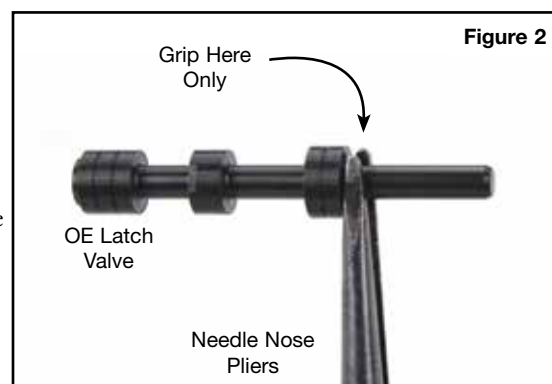

Figure 2
- Using a pair of needle nose pliers/vice grips, grip the valve on the spring stem at the base of the critical spool (**Figure 2**).